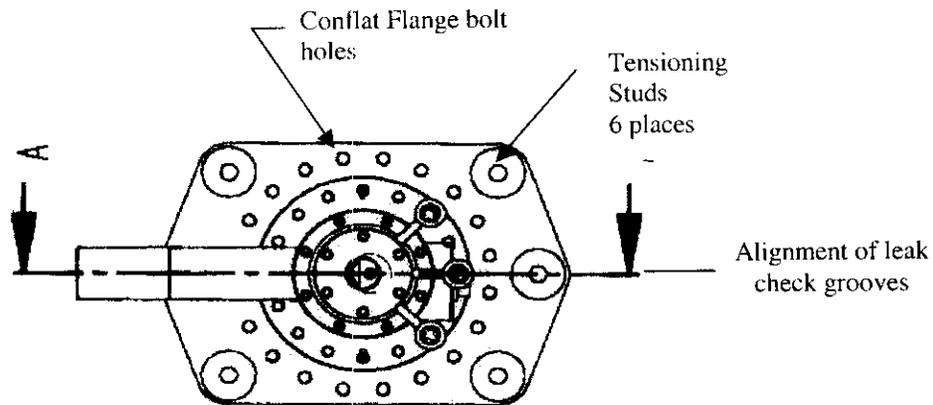

Figure 1.15 The 20-hole Conflat bolt pattern is bisected by center tensioning studs.
- 1.15** Align the top plate rotatable Conflat flange to the orientation shown on Figure 1.15, where the leak check grooves on the flange align with the middle tensioning studs.